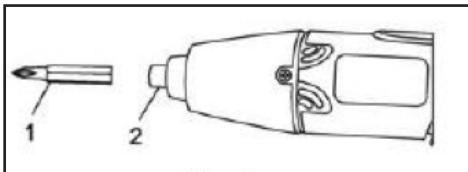

Fig.2
2. Insert the screwdriver bit (1) fully into the screwdriver collet (2) (Fig. 2).